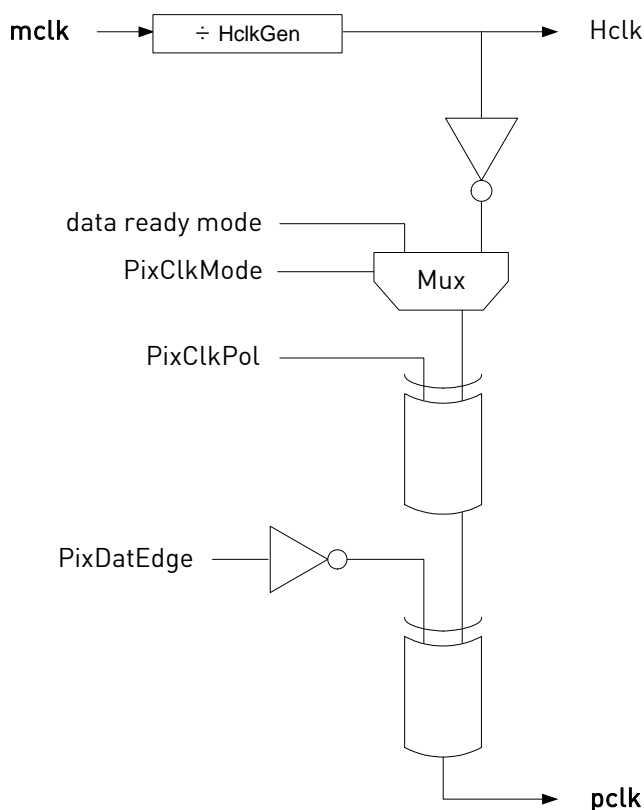

Figure 18: Clock Generation Module
The KAC-00401 contains a clock generation module (Figure 18) that will create three clocks as follows:
- **Pclk:** the pixel clock. This is the external pixel clock that appears at the digital video port. By default Pclk is free running and its frequency is always equal to Hclk (see Figure 18).